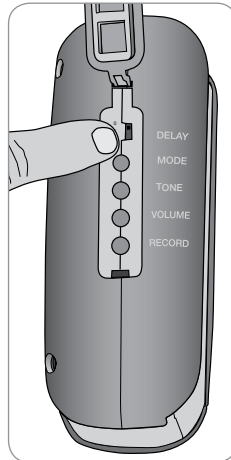

Fig. 13
2. Slide the toggle switch to the desired delay setting, 0-1-2 (Fig. 13).